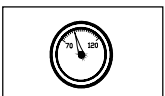

Fig.4
5. Regulate the air pressure to obtain 70 PSI (4.8 bar) the tool. Check the operation of the contact safety trip mechanism following the instructions in this manual. (See Fig. 4)